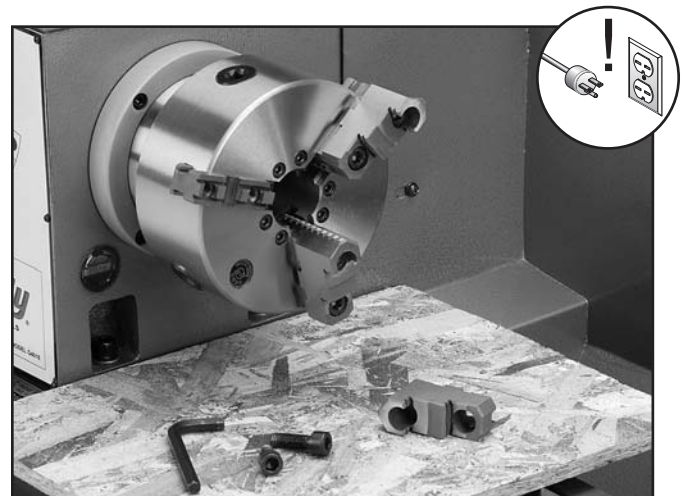

Figure 23. Reversing the chuck jaws.
2. Rotate the jaw 180° (**Figure 23**) and replace the cap screws. Make sure the longer cap screw remains in the thicker part of the jaw. Repeat with the remaining jaws.